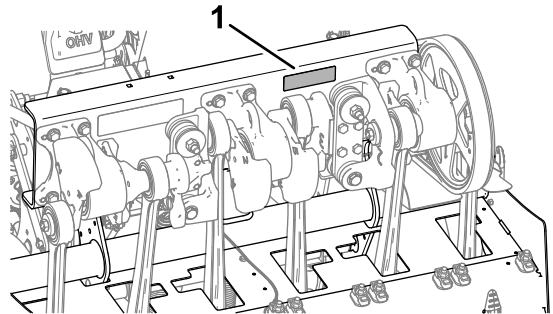

Figure 182
3. Check the coring head fasteners, tiller handle fasteners, and wheel lug nuts to ensure that the proper torque is maintained. Fastener torque requirements are listed on the bolt torque decal located on the coring head support channel (Figure 182).